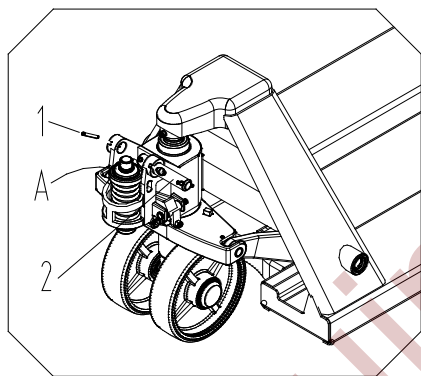

Fig.1
3.1 See fig 1, pull out the pin roll 2.